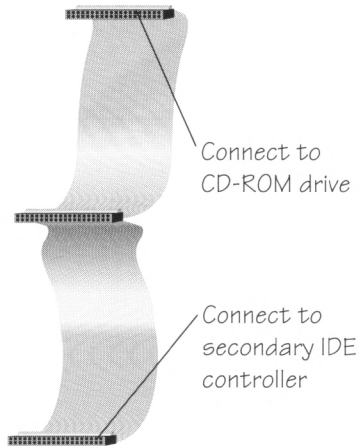

Fig. 5: IDE ribbon cable
7. Locate the IDE ribbon cable provided with the CD-ROM drive. (See Figure 5.)